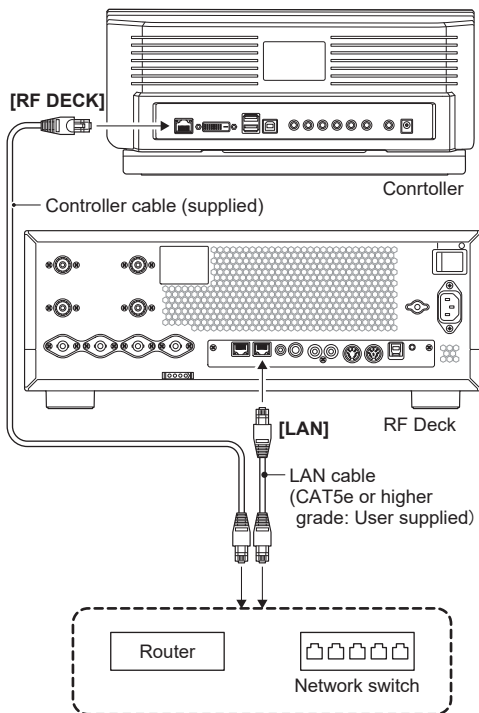

Figure 09-8. Connection in Home Network (Completed)
- 7). Connect the [RF DECK] port of the Controller to your home network switch or router (LAN side) with the supplied controller cable. (Figure 09-8)